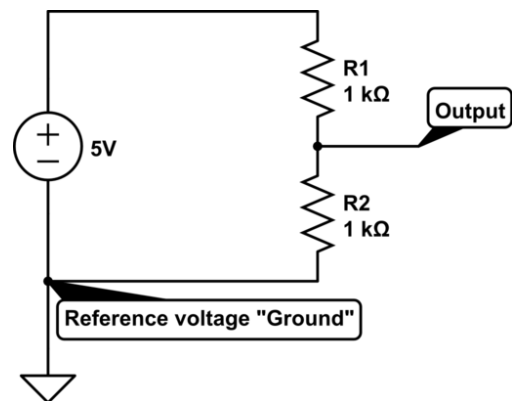

Figure 2: A voltage divider circuit
- Using the HP power supply set to 5 volts, build the circuit shown in figure 2.